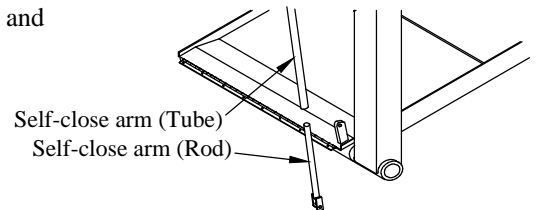

Figure 21: Self-close arm parts.
8. **Remove** the rod from the tube (Figure 21).